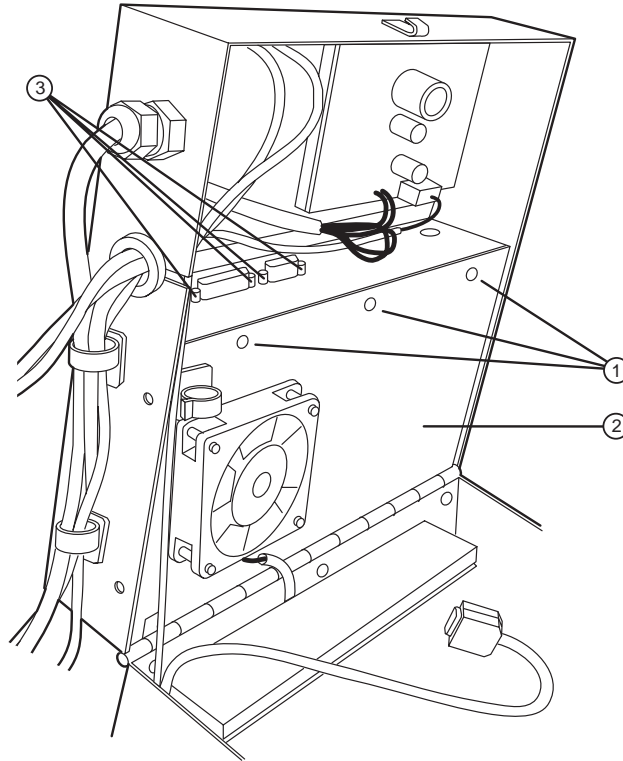

Figure 3-5 CPU cover screws and standoffs.
①—Side screws. ②—Four top screws. ③—Low voltage and CPU power cables.
10. Remove the three (3) phillips screws securing the inner cover. Refer to Figure 3-5.
11. Remove the six (6) standoffs at the rear. Refer to Figure 3-5. Remove the cover.